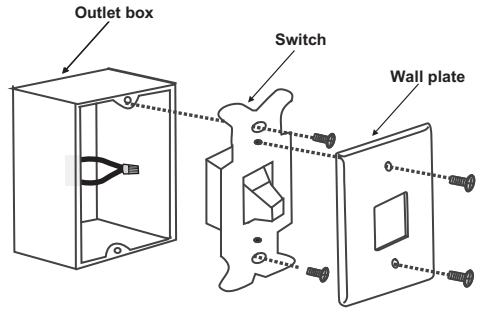

Figure 17
Step 1. Remove the existing wall plate and the old switch from the wall outlet box. Wire nut the **BLACK** leads (hot) together and push back inside the outlet box. (Fig. 17)